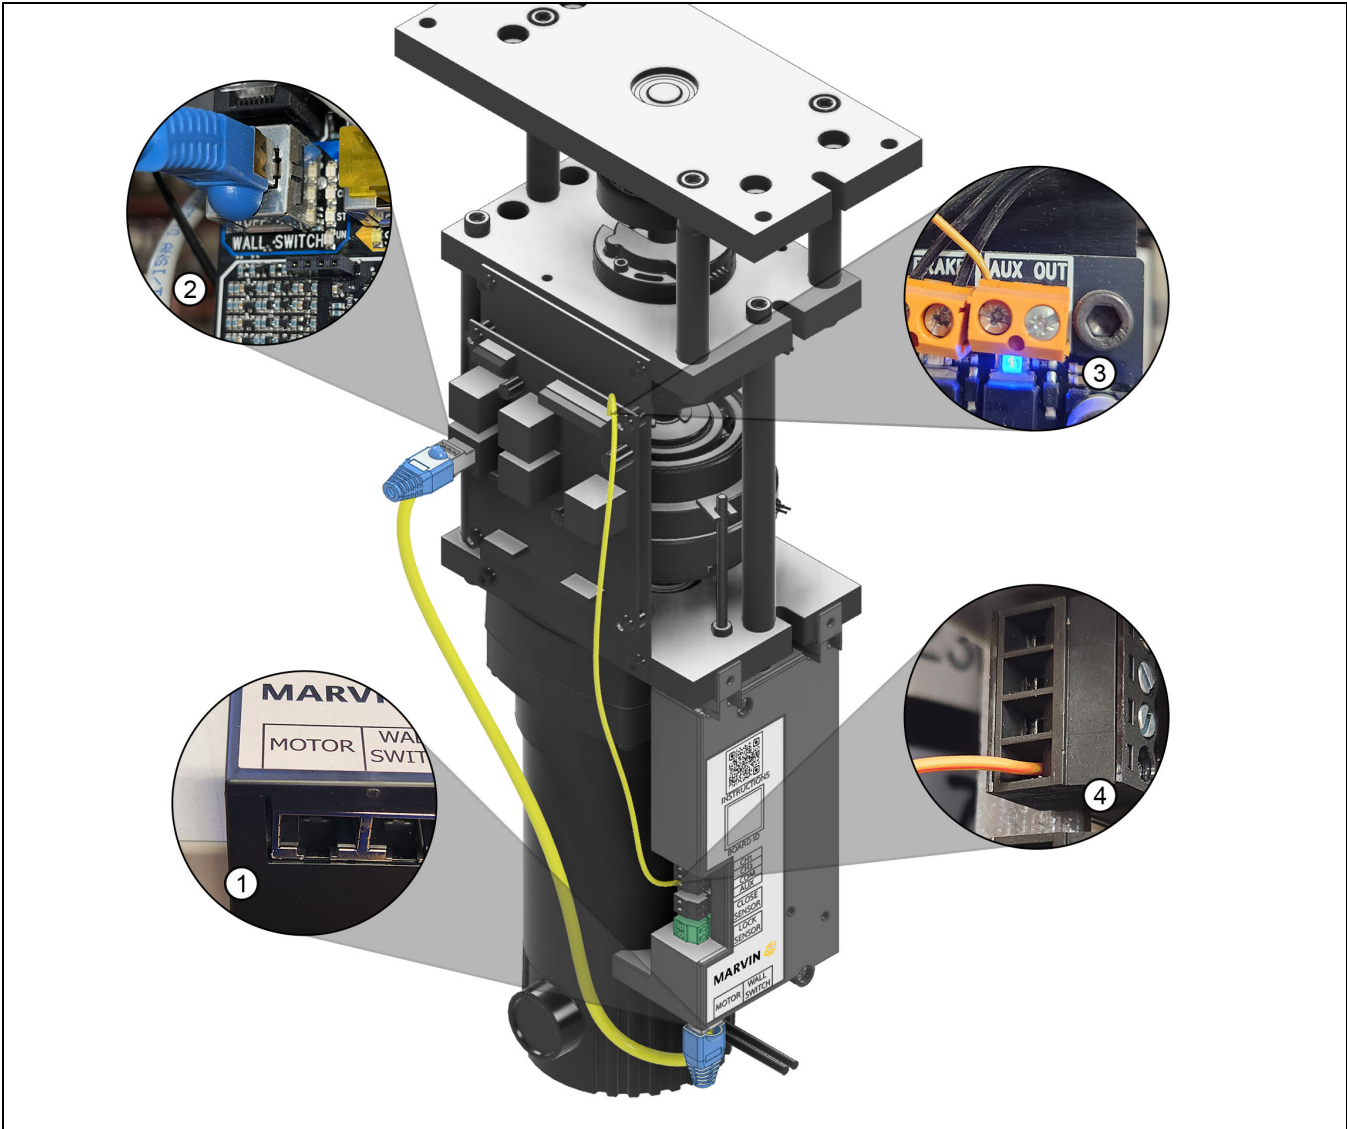

Figure 13 Motor with MCH control module installed
4. Connect the provided Cat5e cable to the RJ45 port labeled "MOTOR" on the bottom of the Marvin Control Module. See Figure 13 (1).
5. Connect the other end to the "WALL SWITCH" port on the motor circuit board. See Figure 13 (2).
7. Connect one end to the screw terminal labeled AUX on the motor circuit board and tighten to 2 in-lbs torque. See Figure 13 (3).
8. Connect to the other end to the AUX port on the black 4 pin connector on the Marvin control Module and tighten to 2 in-lbs torque. See Figure 13 (4).